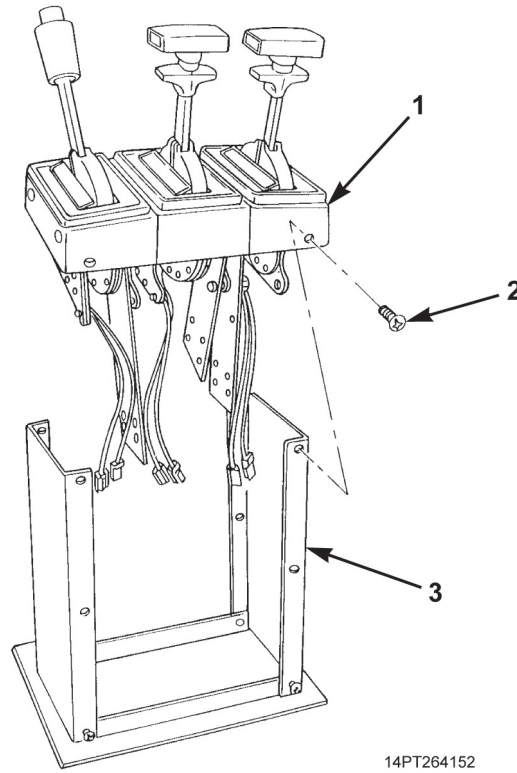

Figure 6. Handle Assemblies Removal.
17. Remove two top screws (Figure 6, Item 2) from front and rear of shift tower (Figure 6, Item 3).
18. Lift handle assemblies (Figure 6, Item 1) from shift tower (Figure 6, Item 3).